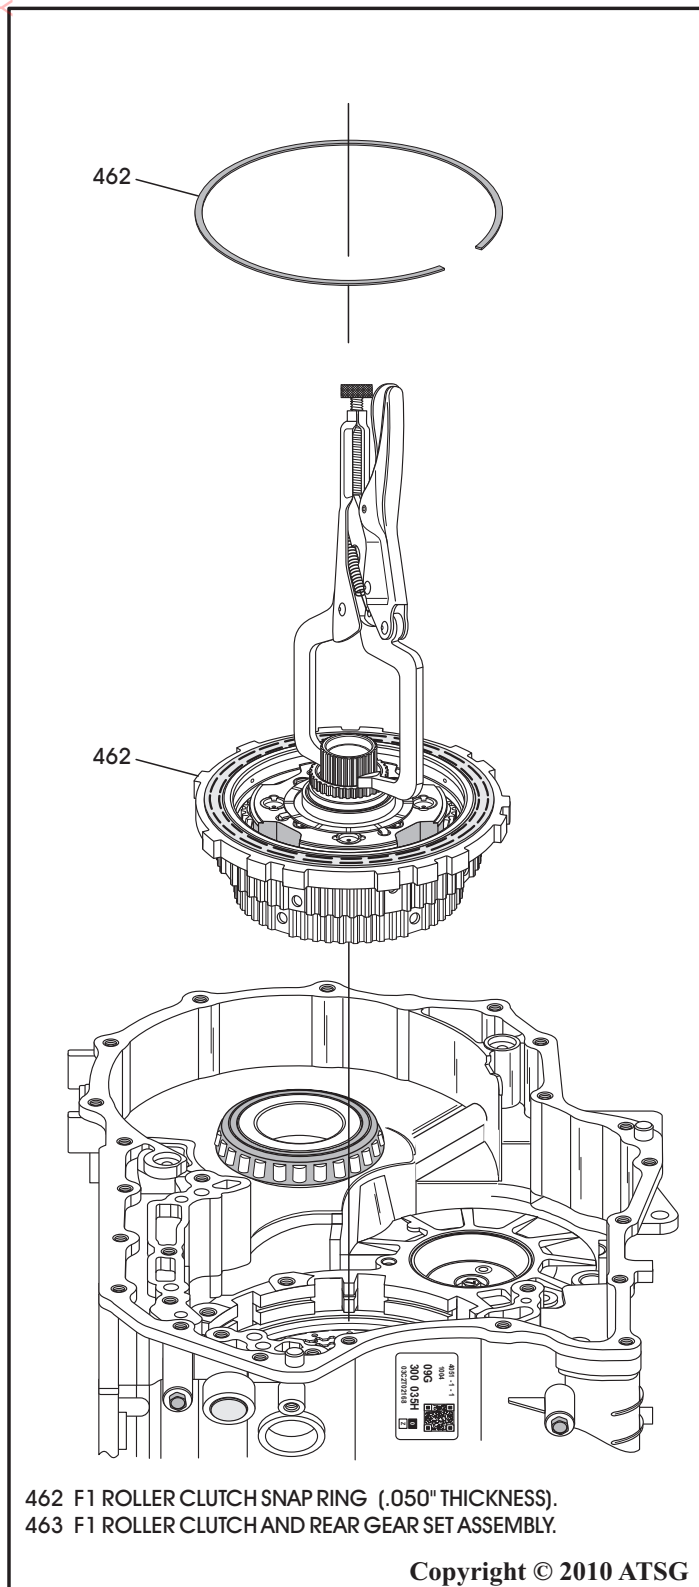

Figure 82
62. Remove the snap ring retaining F1 roller clutch, as shown in Figure 82.
63. Carefully install the style of vice-grips that are shown in Figure 82, to the splines of the small sun gear.
64. Use the vice-grips as a handle to remove the F1 roller clutch and rear planetary gear-set as an assembly, as shown in Figure 82, and set aside for the component rebuild section.